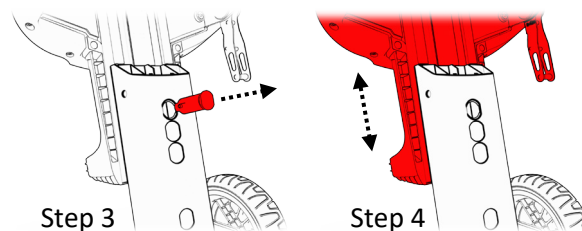

Figure 21 Seat height adjustment holes
3. Once the bracket has been removed you should be able to remove the bulky metal pin (located in one of the three adjustment holes) holding the seat in its place. Remove the pin while holding the seat with your other hand (see Figure 21, Step 3).
4. Now you can adjust the seat to any of the four holes height and reinsert the pin to hold it in place (see Figure 21, Step 4).